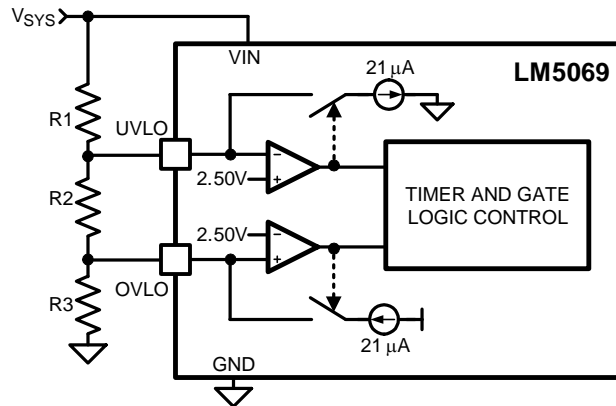

Figure 14. UVLO and OVLO Thresholds Set By R1-R3
**Option A:** The configuration shown in Figure 14 requires three resistors (R1-R3) to set the thresholds.